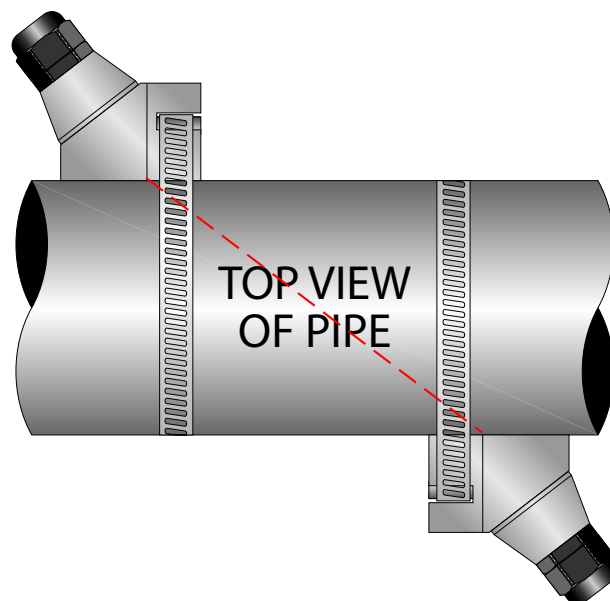

FIGURE 2.13 - Z-MOUNT TRANSDUCER PLACEMENT
- 7) Place the downstream transducer on the pipe at the calculated transducer spacing. See **Figure 2.13**. Using firm hand pressure, slowly move the transducer both towards and away from the upstream transducer while observing signal strength. Clamp the transducer at the position where the highest signal strength is observed. Signal strength of between 5 and 98 is acceptable. The factory default signal strength setting is 5, however there are many application specific conditions that may prevent the signal strength from attaining this level.